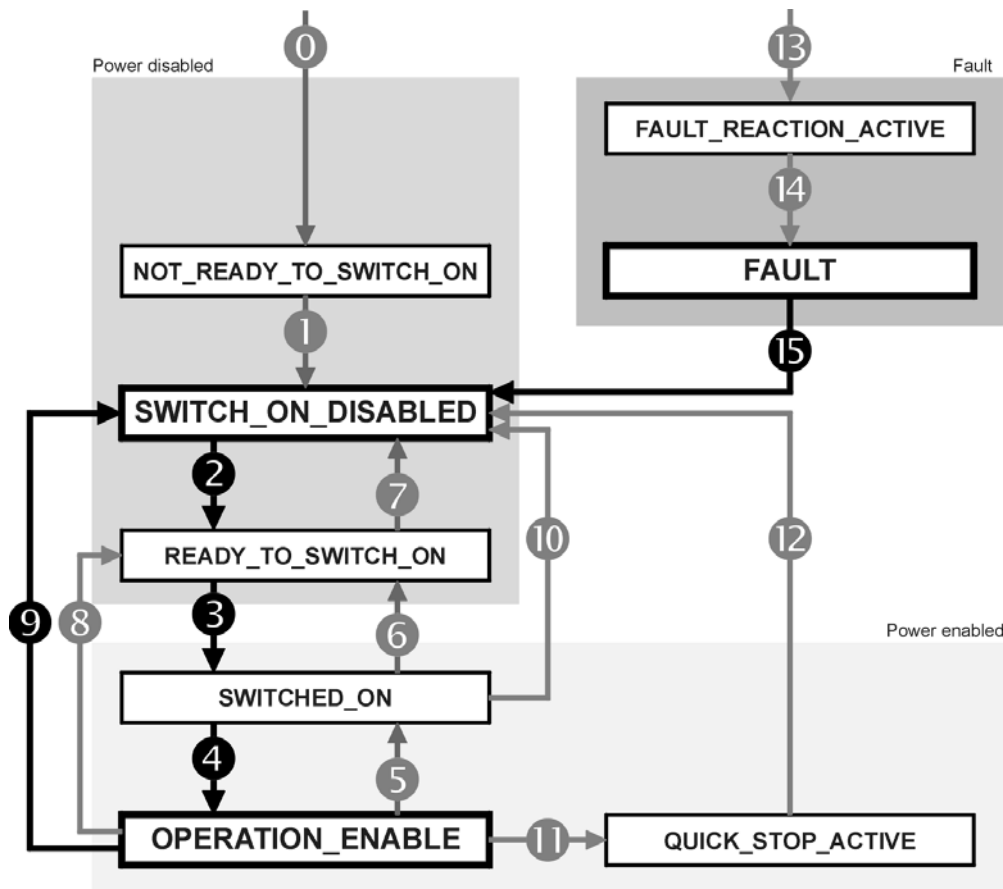

Figure 7.9: State diagram of the servo controller
- 3.) In accordance to the state diagram (Figure 7.9) the state transitions 2, 3 and 4 have to be executed.